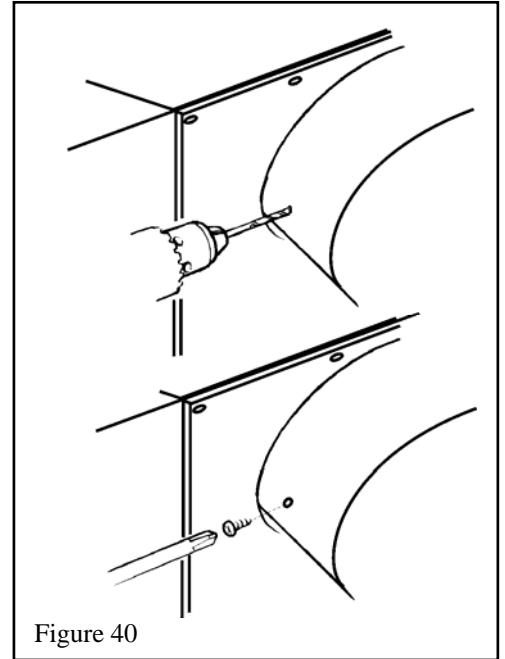

Figure 40
2. Drill through the adapter outer tube and appliance outer collar for #6 screws. See figure 40. *Make sure that the drill does not penetrate the inner tubes.*
3. Secure the adapter to the outer collar with two #6 thread cutting screws supplied (Fig. 40).
4. Drill through the adapter outer tube and appliance outer collar for #6 screws. See figure 40. *Make sure that the drill does not penetrate the inner tubes.*
5. Secure the adapter to the outer collar with two #6 thread cutting screws supplied (Fig. 40).